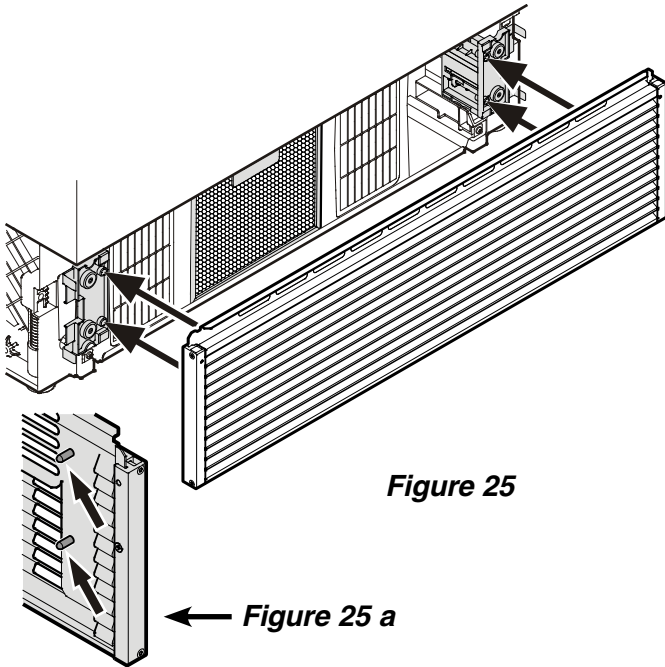

Figure 25
7. Install the ventilation grille (**Figure 25**).
The grille has bolts on the inside (see detail in **Figure 25 a**). These bolts must be inserted into the holes of the supports.
Figure 25 a